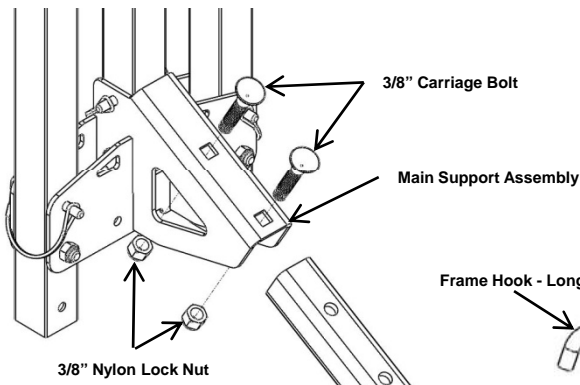

FIGURE 1
1. Align mounting holes of Receiver Shank with holes in Main Support Assembly. Use the supplied 3/8" carriage bolts and 3/8" Nylon locking nuts to fasten receiver shank to main support. (Fig 1)